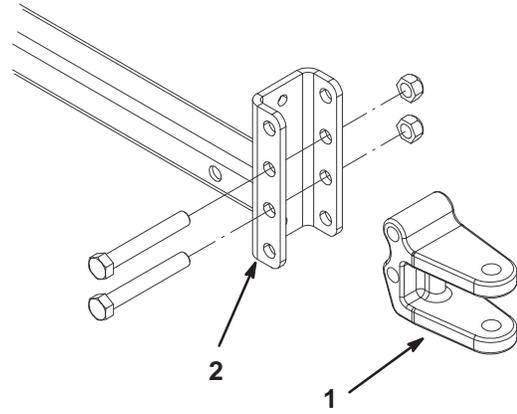

Figure 7
- Remove bolts and locknuts securing hitch clevis (Fig. 7) to hitch tube.